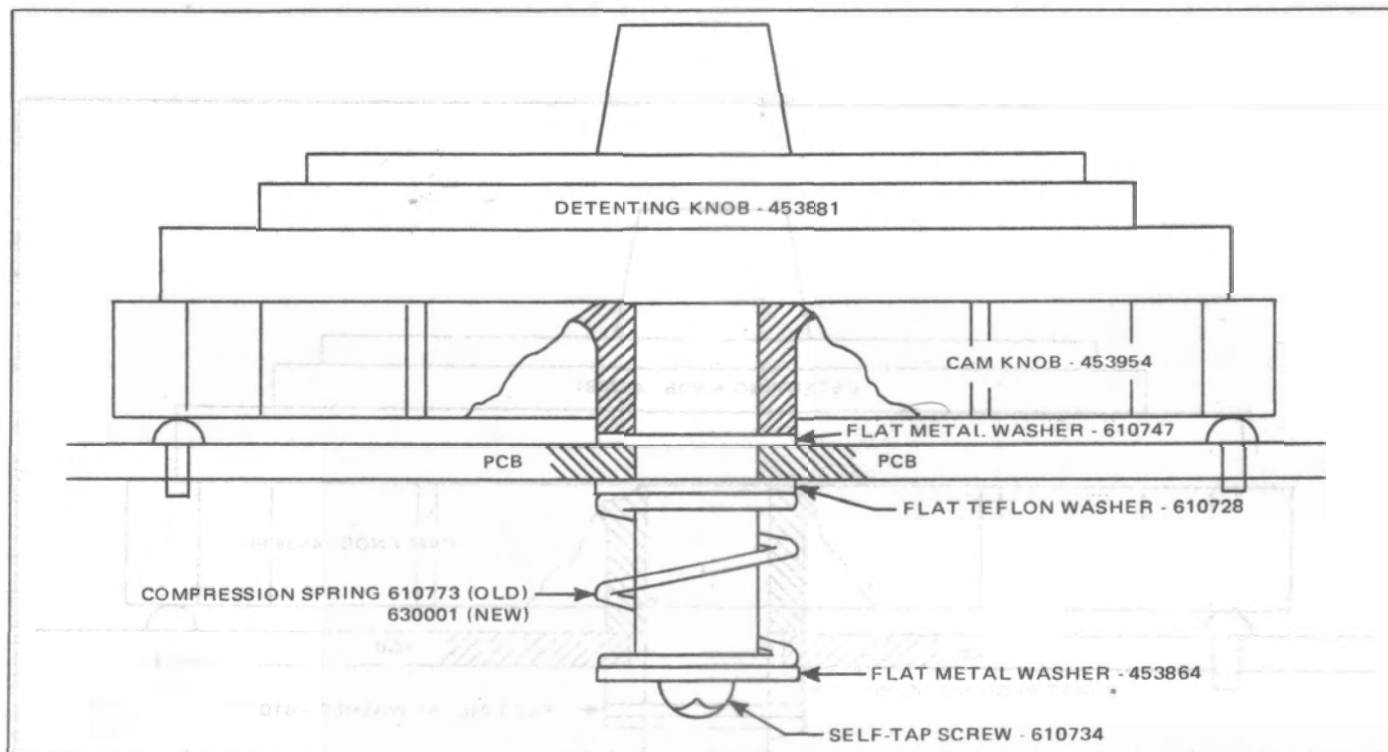

Figure 3.6 - 2000 (A) Revision E Switch Profile Drawing
3.7.5 In the very early Rev. E boards, the cam knob exerted too much pressure on the switch spring contacts, causing some problems with the circuit components actually being energized when the Function (range) switch was set to the "OFF" position. To relieve the pressure on the switch spring contacts, a flat metal washer was added to the detenting knob shaft before the switch knob assembly was secured to the PCB. See Figure 3.6.